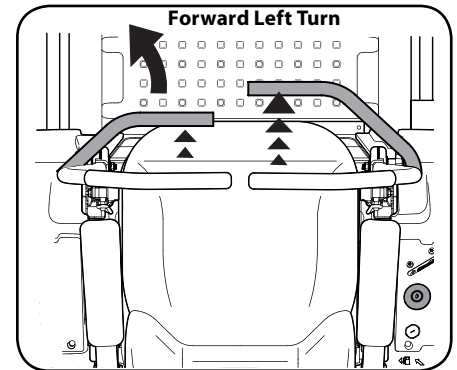

Figure 3-3
1. To turn to the left, move the left drive control lever rearward of the right lever. See Figure 3-3.